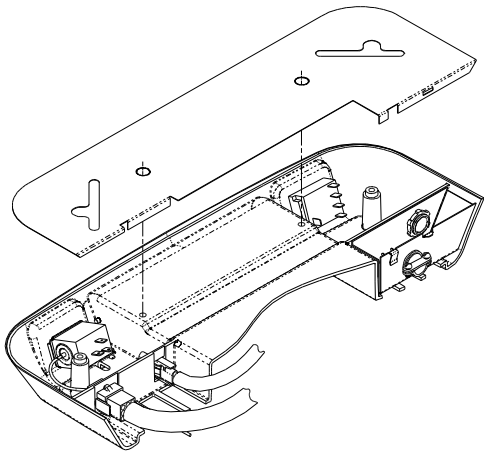

FIGURE 12
Plug the heater cord into the 2 position receptacle (See Figure 12).
- H. Place the metal control box shield over the thermostat, switch and field wiring boxes. Make certain that all wires are pushed into the control boxes or laying in the wireway between the thermostat and switch boxes and will not be pinched by the control box shield. Control box shield is properly installed when the two holes in the shield are aligned with the two screw holes in the ceiling assembly chute (See Figure 12).
frame above (See Figure 12, 13 & 14 for screw locations).